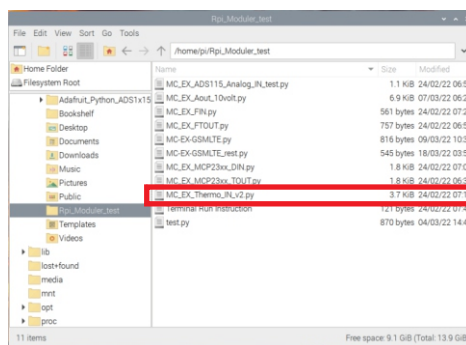

Figure 3: The example programs for expansion modules.
8. Select the **MC_EX_Thermo_IN_v2.py** example program that matches with the Thermocouple Input expansion module shown in Figure 3.